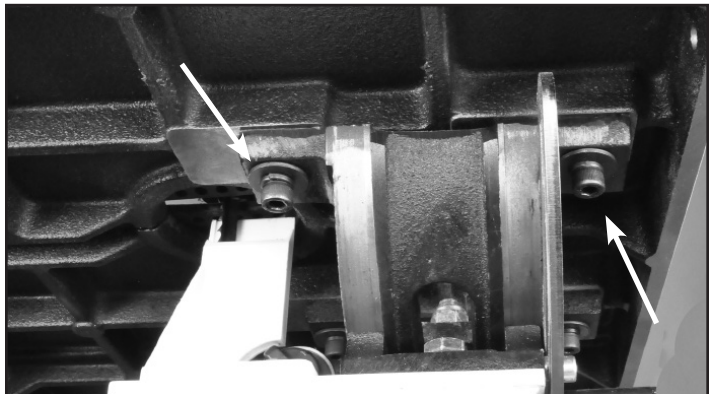
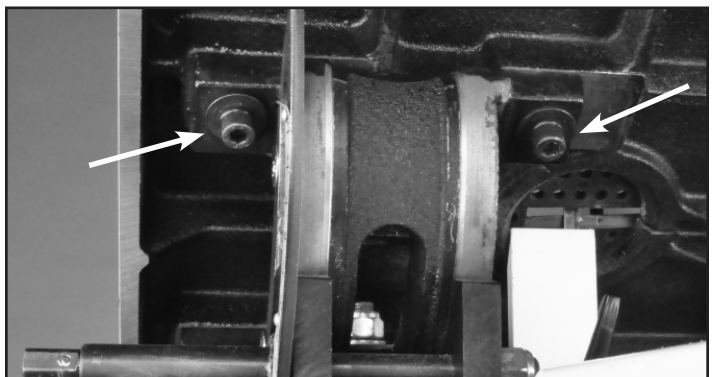

FIGURE 2
FIGURE 3
3. Attach the table to the trunnion with the four Hex Socket Cap Screws, Spring Washers and Washers (Parts #12B, 11B, 10B). Install two bolts to the right of the blade, hand tightened only. Fig. 2. Then tip the table to 45 degrees and install the two bolts to the left of the blade. Fig. 3. DO NOT fully tighten the bolts at this time. Return the table to the horizontal position.